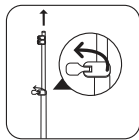

fig.8
1. Adjust the pole to its maximum height by sliding it upwards then locking the 3 clips. (fig.8)